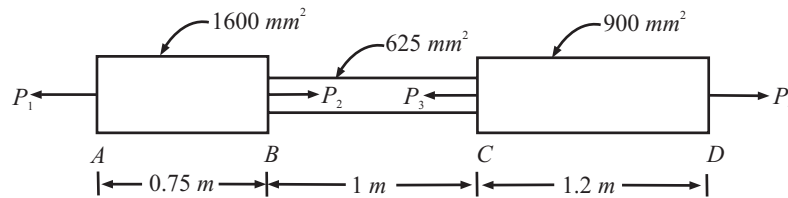

Fig 14.20
Q. 37: A member ABCD is subjected to point loads P₁, P₂, P₃ and P₄ as shown in Fig. 14.20